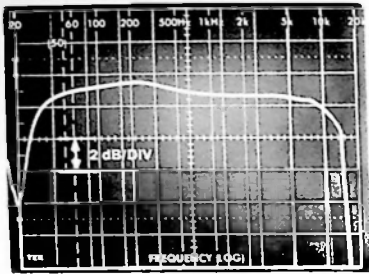

Fig. 17. Typical Response of Fm Station Checked through De-emphasis Circuit in Modulation Monitor
2. Connect the spectrum analyzer to the audio output of the modulation monitor and sweep the analyzer from 20 Hz to 20 kHz. In the normal (de-emphasized) output the response should be flat, as shown in figure 17.